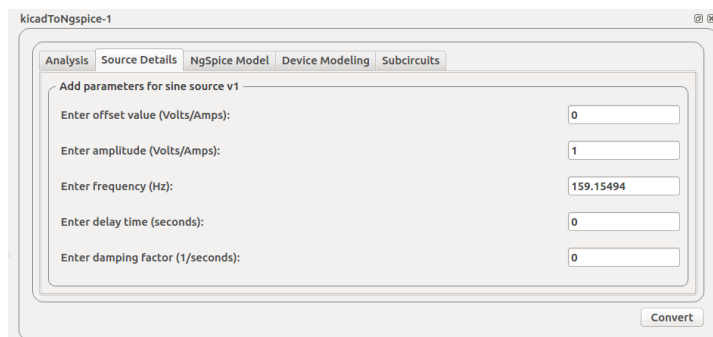

Figure 10.3: Source details: Low pass filter
3. The source details are given as in Fig. 10.3. The generated KiCad netlist is then converted to ngspice compatible netlist.